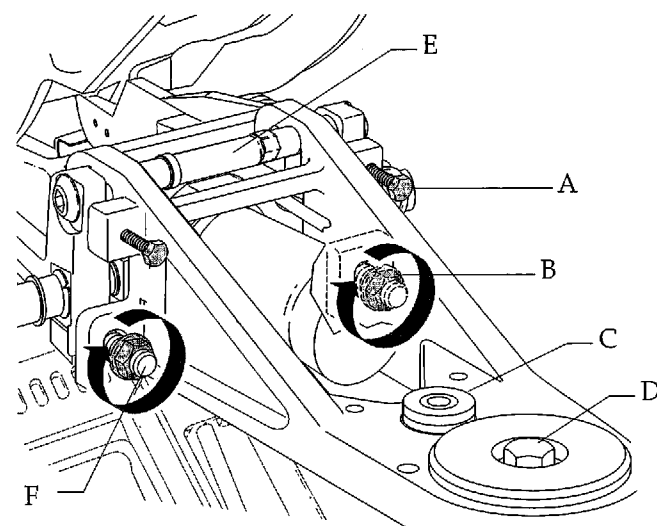

Figure 62. Leveling the front-mount arm. (A) stabilizing screw; (B) flanged nuts; (C) bubble level; (D) rotation bolt; (E) leveling cam; (F) leveling bolt
6. When all of the front mount leveling adjustments have been made, tighten the stabilizing screws until the screws make contact with the casting (see Figure 62).